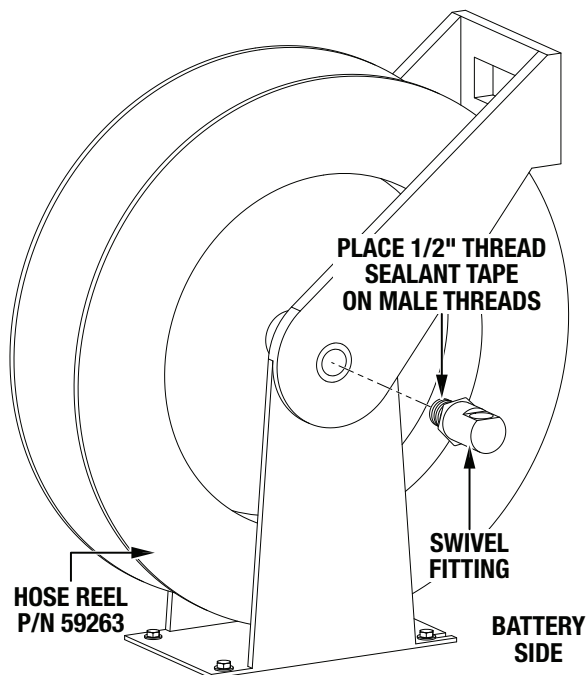

Figure 31. Swivel Fitting Installation (Battery Side)
13. Place 1/2" thread sealant tape onto the threads of the **battery-side** hose reel swivel fitting (Figure 31). Insert the swivel fitting into the opening on the **battery-side** hose reel (P/N 59263) and tighten it securely.